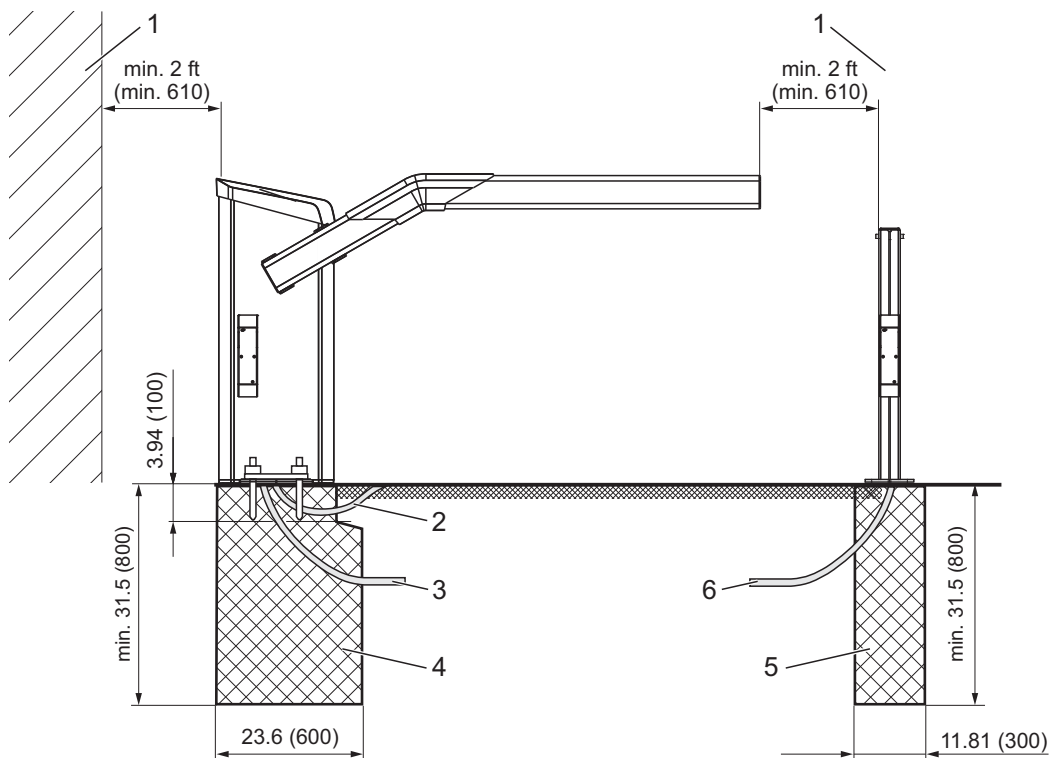
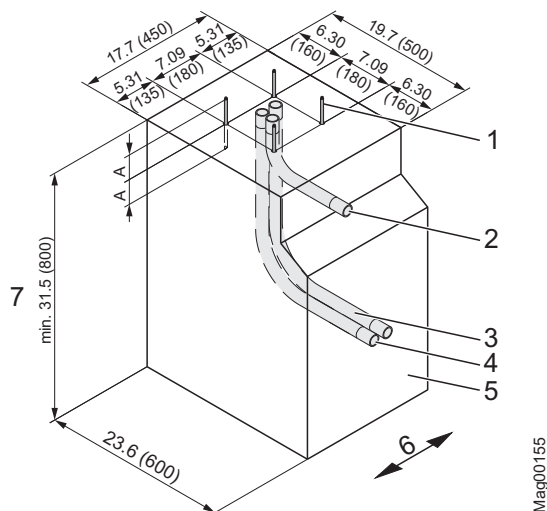
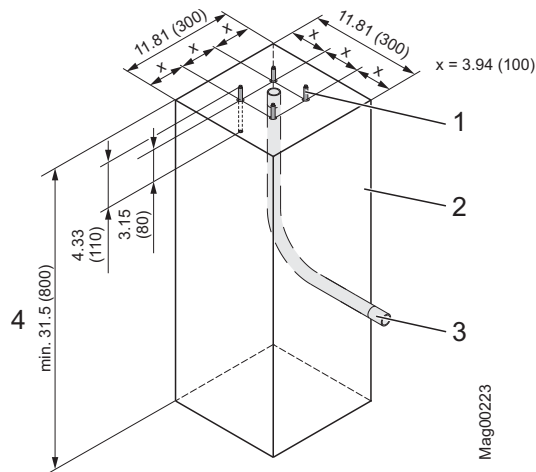

Fig. 14: Assembly boom system
Fig. 15: Foundation plan
Fig. 17: Foundation plan for light barrier post
<p>WARNING! Danger of crushing and shearing when the barrier opens or closes!</p> <p>When a barrier opens or closes, the barrier arm may lead to severe crushing or injury!</p> <p>Therefore:</p> <ul style="list-style-type: none"> – Keep a safety distance of at least 2 ft (610 mm) between the barrier arm and other objects, such as walls, masonry or houses. → See also page 28, chapter 2.7 – Install the barrier system only when all exposed pinch points are eliminated or guarded. – Assemble and install barrier system according to Fig. 14. – Controls intended for user activation must be located at least 6 ft (1.83 m) away from any moving part of the barrier and where the user is prevented from reaching over, under, around or through the barrier to operate the controls. Outdoor or easily accessible controls shall have a security feature to prevent unauthorized use.
→ See page 28, chapter 2.7 and page 56, Fig. 14
→ See page 56, Fig. 14 and page 58, Fig. 15.
→ See page 56, Fig. 15.
1. Dig foundation hole pursuant to Fig. 14 and Fig. 15.
3. Place empty conduits pursuant to Fig. 15 in the foundation hole.
5. Fill concrete foundation pursuant to Fig. 14.
→ See page 56, Fig. 14 and page 60, Fig. 17.
1. Dig foundation hole pursuant to Fig. 14 and Fig. 17.
2. Place empty conduit pursuant to Fig. 17 in the foundation hole.
4. Fill concrete foundation pursuant to Fig. 17.